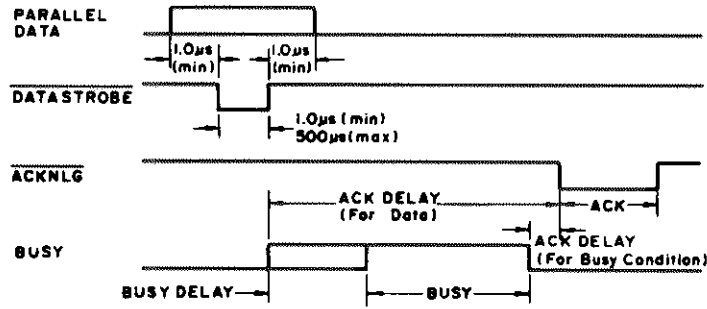

FIGURE 2-57. PARALLEL TIMING SEQUENCE
2.3.4.4 8255 Programmable Peripheral Interface (Figures 2-57 and 2-58)